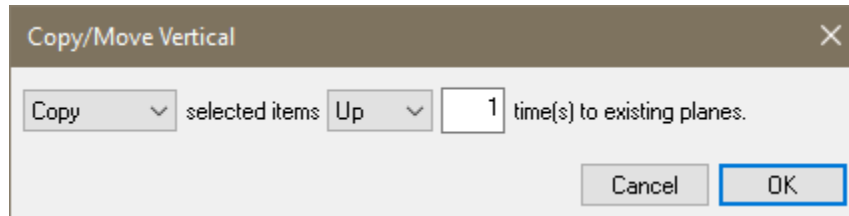

Figure 5-3
- Click on the drop-down box labeled *To* and select *Up*. This will change the *Copy/Move Vertical* window to be as shown in **FIGURE 5-3**.